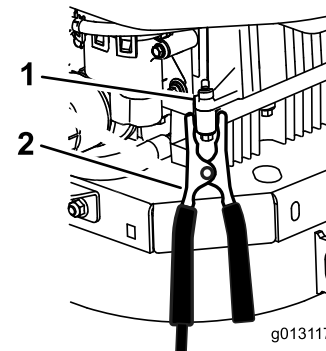

Figure 66
6. **Make the final connection on the engine block of the stalled vehicle (not to the negative battery post) away from the battery and stand back (Figure 66).**